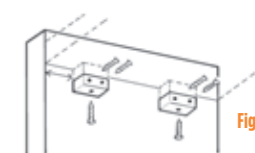

Fig 12 Fitting the shelves to the side boards
- Measure 30mm in from the front and back edge of each shelf and mark as above. Take the other half of the fitting and screw to the shelf ensuring that the fitting is flush with the end of the shelf (see Fig 12).